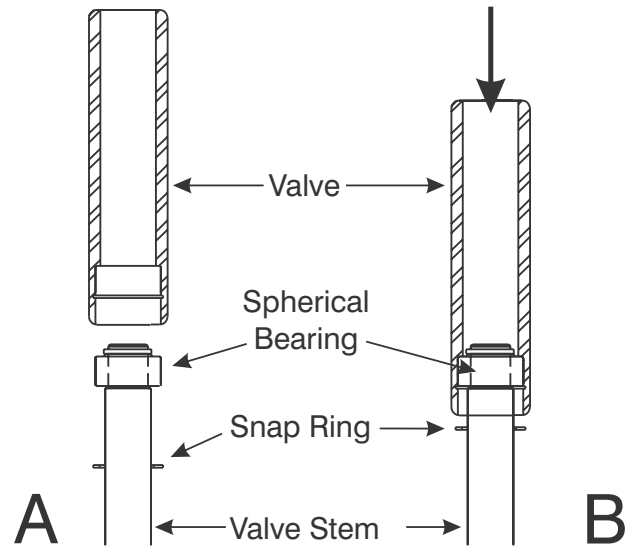

Figure 9-19. Seat Bearing Against Internal Shoulder of the Valve.
- If manual pressure is enough to properly fit the Valve to the Spherical Bearing, as shown in Figure 9-19, proceed to step 6.
Do not damage or unseat the Spherical Bearing when pressing the Valve into place. Stop pressing the Valve as soon as the Spherical Bearing touches the bearing seat inside the Valve as shown in Figure 9-19.